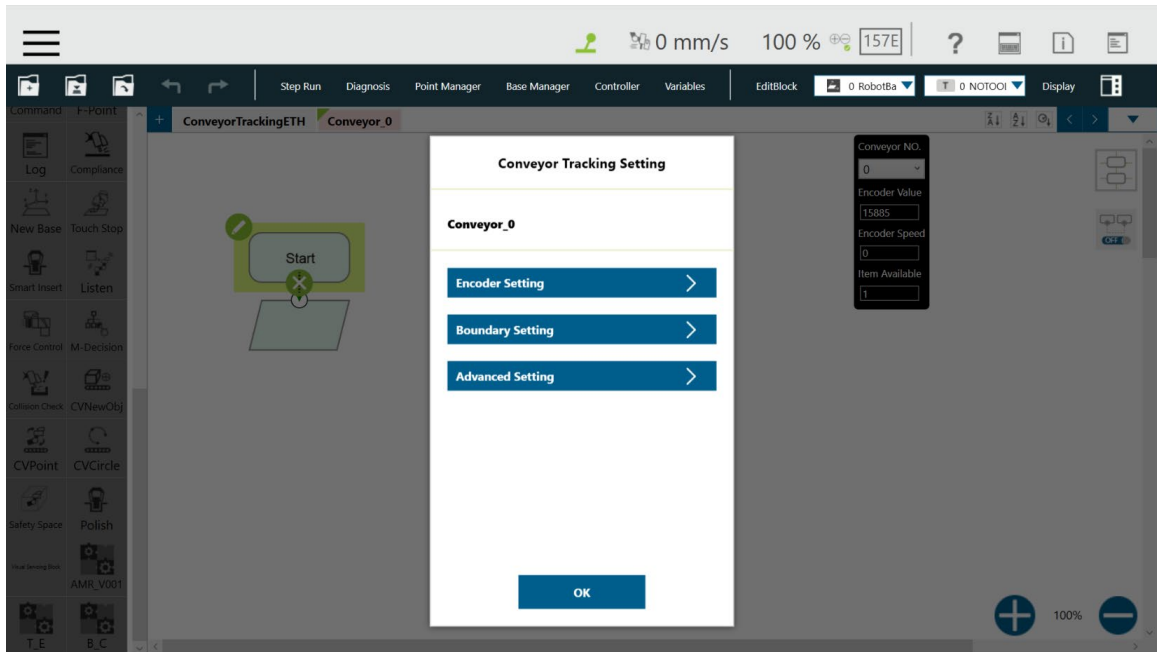

Figure 33 Conveyor Tracking Setting
- Another is the sub-thread, which is Conveyor_0 in **Figure 33**. This thread is configuration-only and cannot add any node.